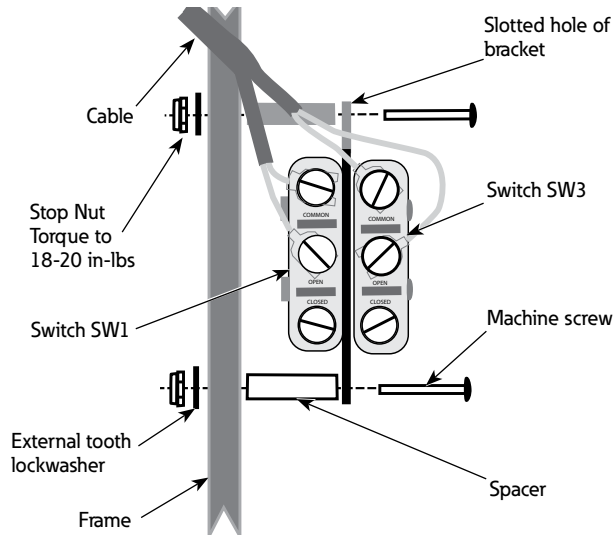

Figure 23. Attach SW1/SW3 microswitches to frame.
3. Reconnect contact bar. Make sure to reinstall all washers or spacers that may have been removed when disconnecting it (Figure 23).